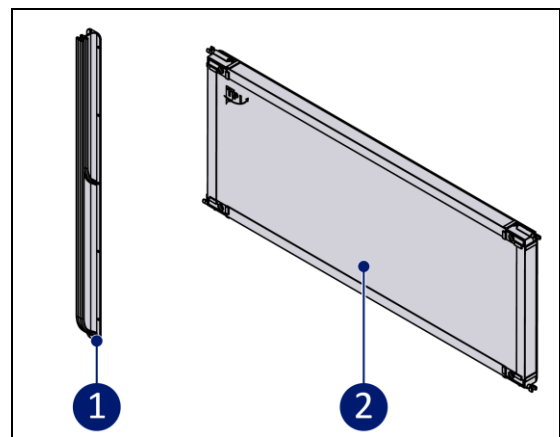

Figure 3-1: Items of the Fenno.
- Fenno slider rail 2x (Figure 3-1, pos. 1);
- Fenno door 1x (Figure 3-1, pos. 2)